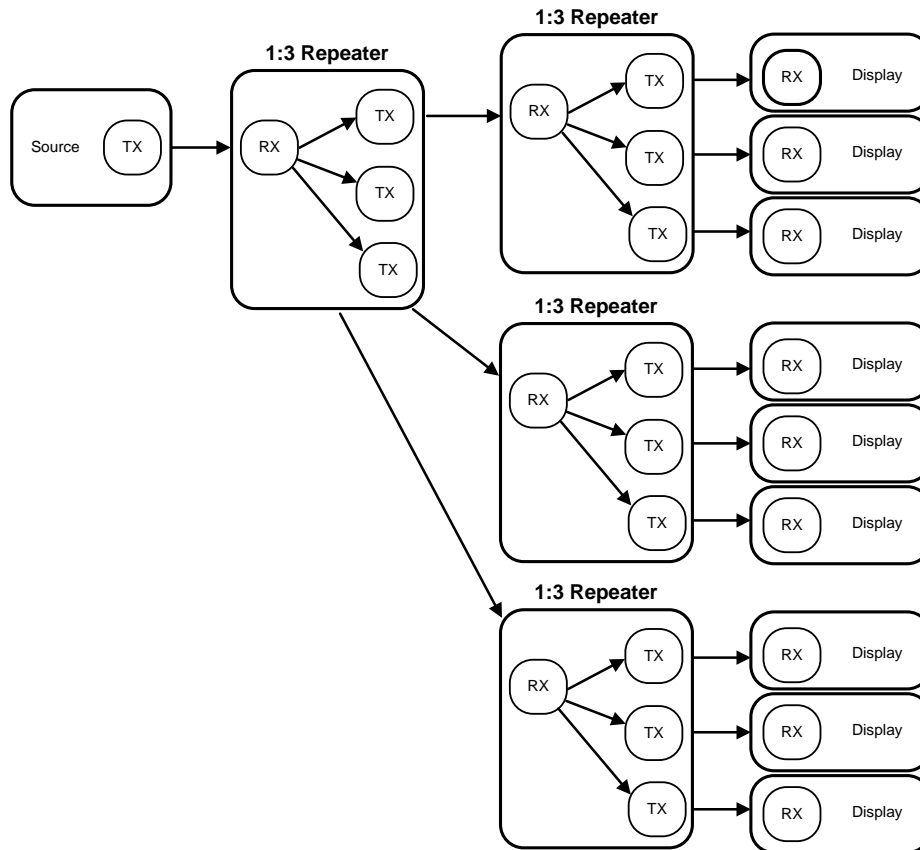

Figure 21. HDCP Maximum Repeater Application
In HDCP repeater application, this document refers to the DS90UH927Q-Q1 as the HDCP Transmitter (TX), and refers to the DS90UH928Q-Q1 as the HDCP Receiver (RX). Figure 21 shows the maximum configuration supported for HDCP Repeater implementations using the DS90UH925/7Q-Q1 (TX), and DS90UH926/8Q-Q1 (RX). Two levels of HDCP Repeaters are supported with a maximum of three HDCP Transmitters per HDCP Receiver. To ensure parallel video interface compatibility, repeater nodes should feature either the DS90UH926Q-Q1/DS90UH925Q (RX/TX) chipset or the DS90UH927Q-Q1/DS90UH928Q-Q1 (TX/RX) chipset.